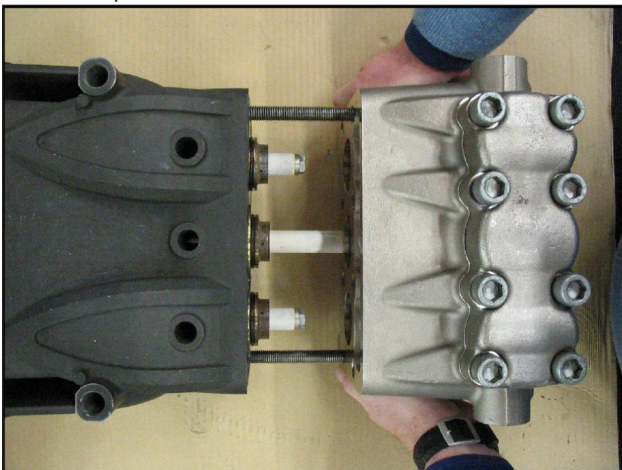

Fig. 33
- B) Lubricate ②③⑤ components with OCILIS silicone grease code 12001600. This operation is also deemed necessary to facilitate adjustment of the lip seal on the piston.
- 2. Using two screws – service pins (code 27726000), fasten the casing as indicated in Fig. 33. Position the complete head, making sure that it is centred only on the central piston.